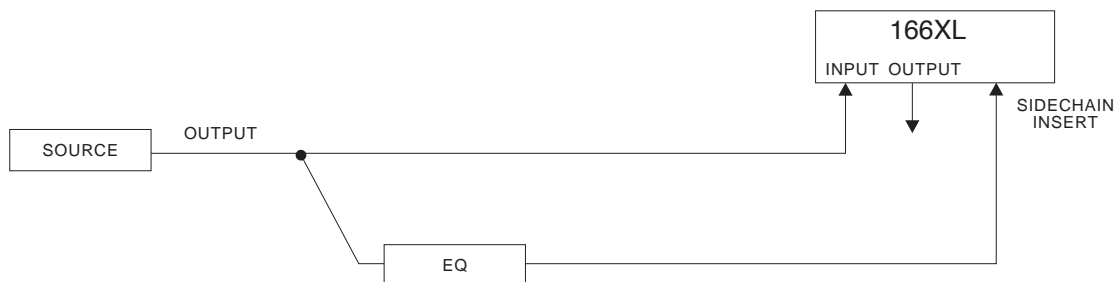

Figure 3: Frequency-Weighted Compression
For example, to set up your 166XL for frequency-sensitive gating or frequency-weighted compression, you must feed an equalizer's input with the same signal fed to the 166XL's INPUT, and then connect the equalizer's output to the 166XL's SIDECHAIN INSERT jack (Figure 3). Providing the signal to both the 166XL's INPUT and the equalizer can be accomplished in several different ways: (1) use an insert cable plugged into the SIDECHAIN INSERT jack. The SEND goes to the input of the EQ. The RETURN goes to the output of the EQ; (2) use a Y-cable to feed the audio source to both the 166XL INPUT and the equalizer input; (3) feed the signal to one of the 166XL's INPUT jacks and use the compressor channel's parallel INPUT jack to drive the equalizer (e.g., if the audio source feeds into Channel 1's 1/4" INPUT jack, use Channel 1's XLR INPUT jack to feed the signal to the equalizer); (4) if the audio source can internally split its output signal (e.g., some synthesizers can send the same signal from two outputs), plug a cable into each output and feed one cable to the 166XL INPUT and the other to the equalizer.